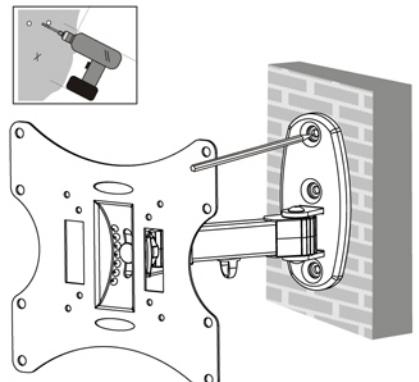

fig. 1.2
- Use the Wall Plate as a template to mark 3 holes locations on the wall, as shown in fig.1.2.